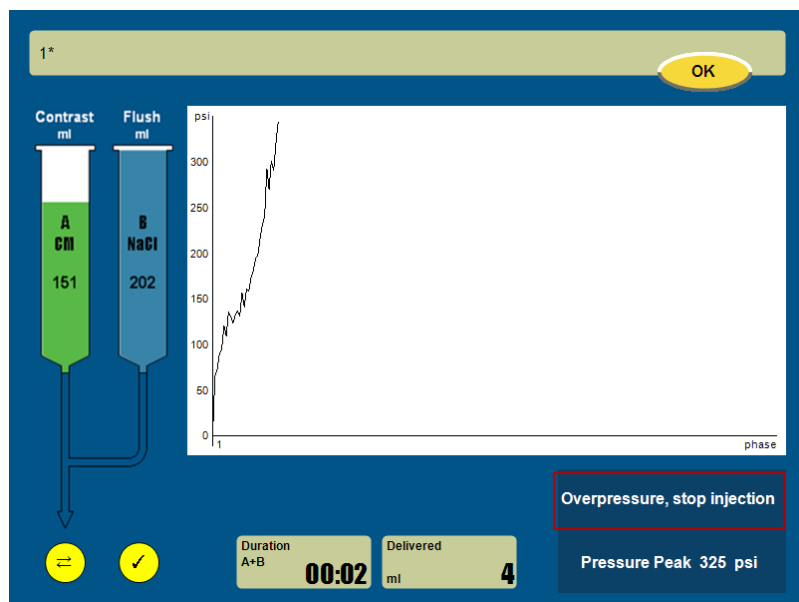

Figure 4
**Status messages (Figure 4):** Provides information regarding the current system status.